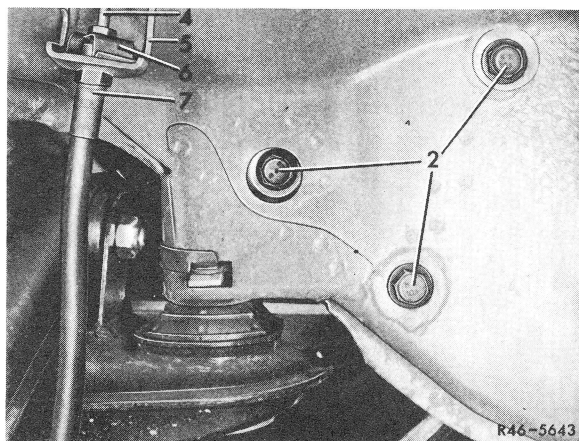

Fig. 3
- 2 Loosen brake hose (7) on brake line (4), then close brake hose and brake line immediately with a rubber plug (Fig. 3).